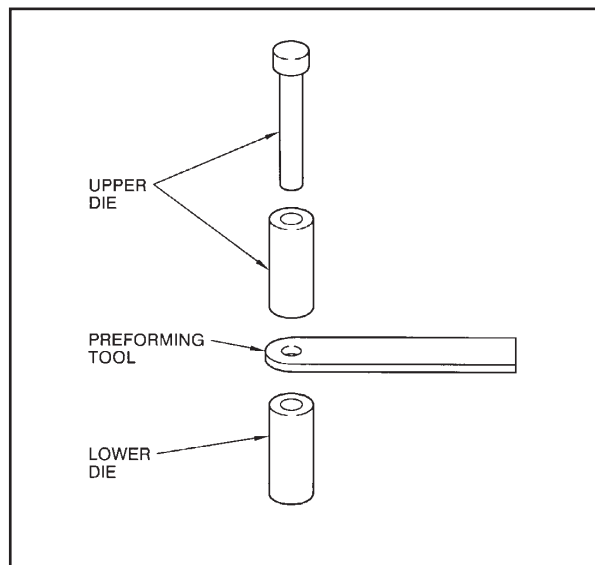

Figure A.5
2. Place the lower hermetic die (Figure A.5) into the lower die holder, either end up.